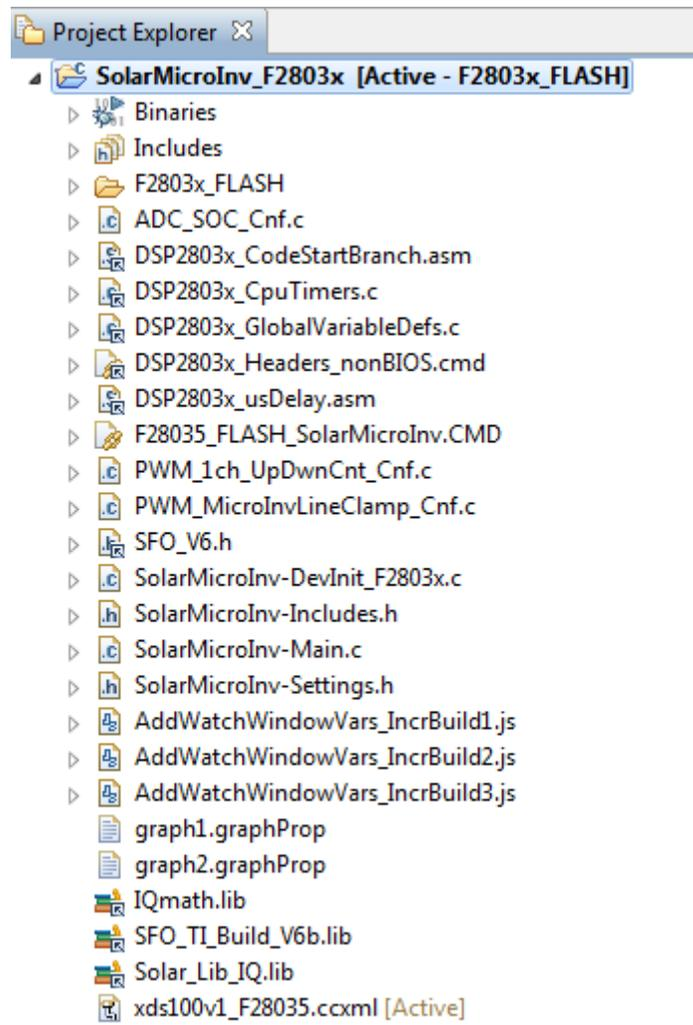

**Figure 22. Adding F28035 PV Inverter Project to the Workspace**
6. Add the solar micro inverter project into the current workspace by clicking Project→Import Existing CCS/CCE Eclipse Project, as shown in Figure 22.